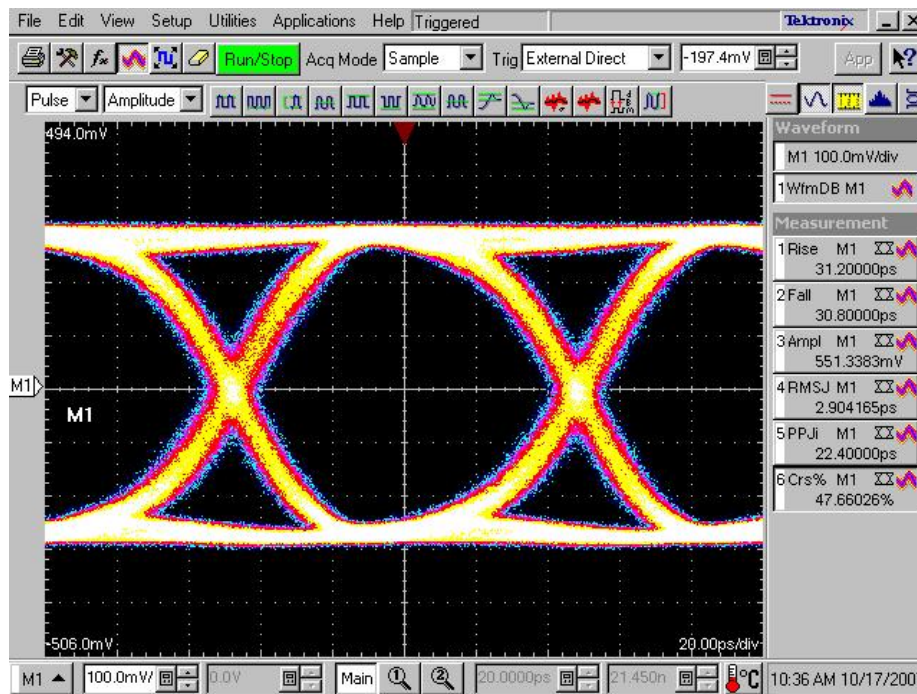

Figure 6: Output Eye-Diagram at 10.3125Gbps, Highest Bandwidth Setting and 600mVpp Output Setting with 10mVpp, 2^{31} -1 PRBS Input
10. Typical eye diagrams at 10.3125Gbps are shown in Figures 6 and 7.